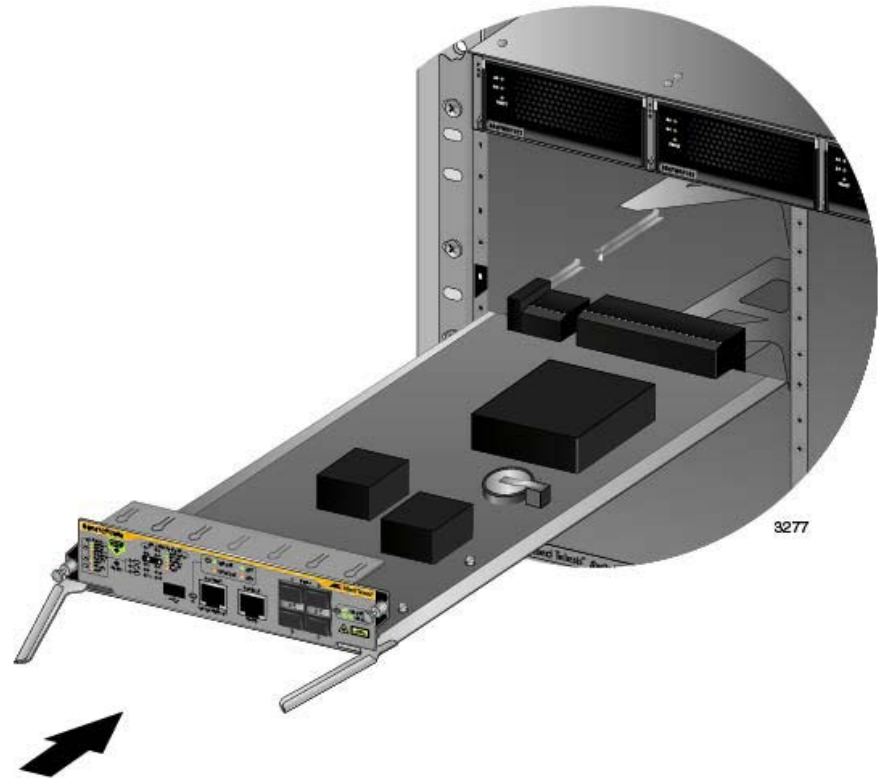

Figure 80. Aligning the AT-SBx81CFC960 Card in the Chassis Slot
- Align the edges of the AT-SBx81CFC960 Controller Fabric Card with the internal chassis card guides in slot 5 or 6 of the AT-SBx8112 Chassis. Figure 80 on page 155 shows the AT-SBx81CFC960 Card aligned in slot 5.